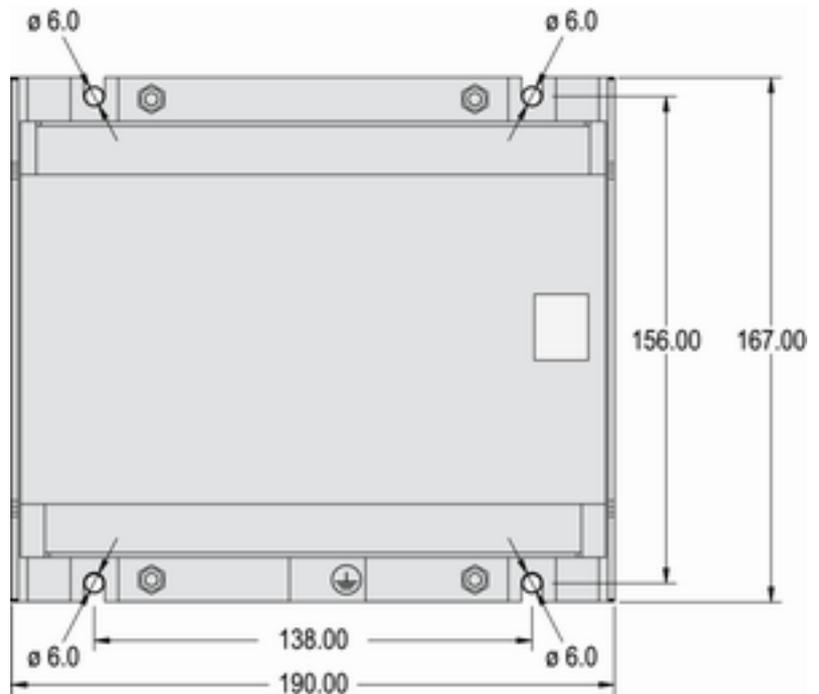

Fig. 9: Sheet metal housing - drill plan
1. ▶ Drill the holes according to the dimensions in Fig. 9 (dimensions shown in mm).